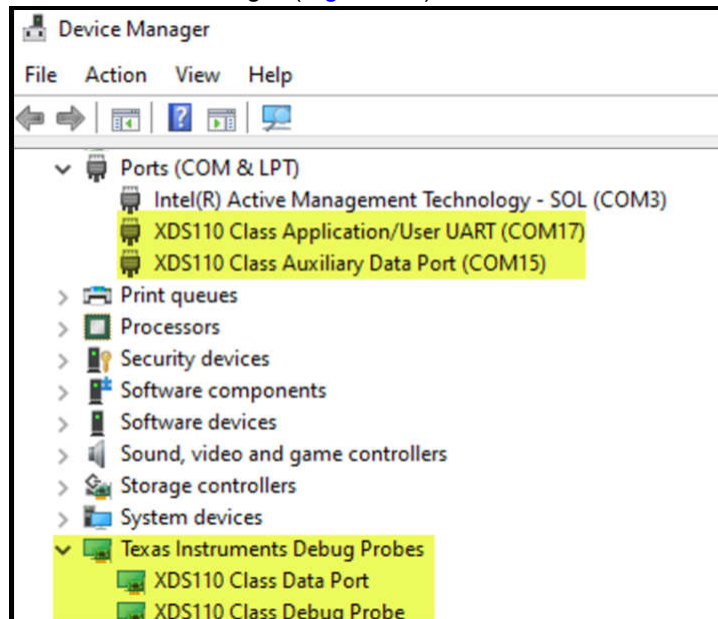

Figure 7-1. Microsoft® Windows® 10 Device Manager Showing Successful Detection of XDS110 Debug Probe
5. **Present in Device Manager:** For the JTAG debug probe to communicate to the PC, the driver files need to be installed. This typically occurs co-incident to the installation of the Code Composer Studio (CCS). To verify that the drivers are successfully installed, connect the PC to the JTAG debug probe and power up. Then go to Control Panel → Device Manager (Figure 7-1) and locate the associated debug probe.